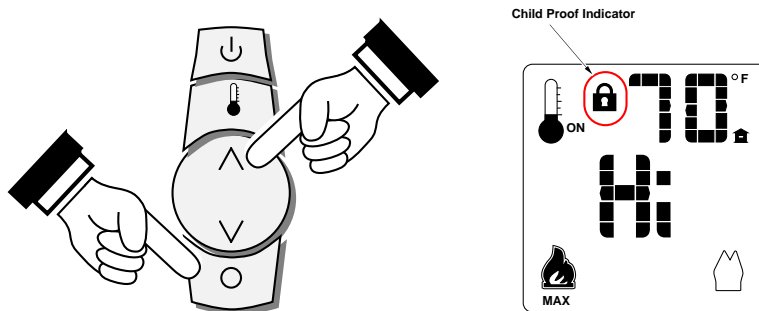

Figure 43
- Press both the MODE and UP buttons simultaneously to turn this feature on and off (see Figure 43 below).